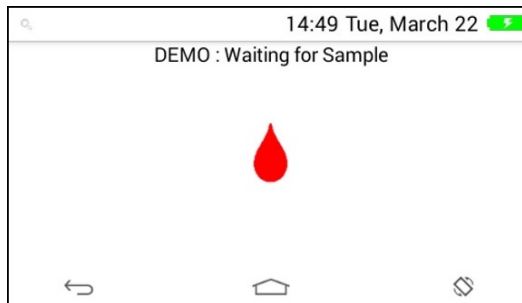

Figure 18 – Demo: Waiting for sample
- c) The demo displays a blood drop icon that indicates the instrument is ready for the sample to be applied. See Figure 18.